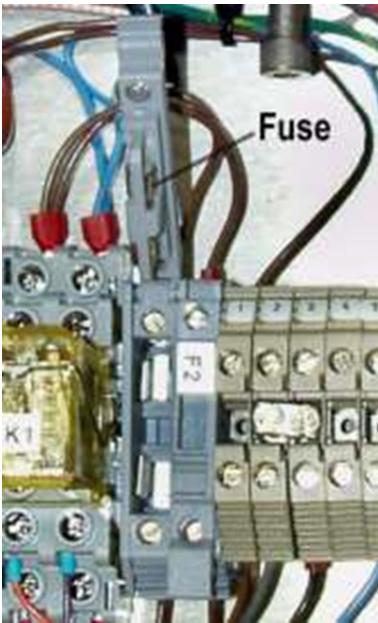

Figure 12. Fuse Replacement
1. Open the fuse housing by lifting up on the tab at the bottom of the housing. The fuse is located inside the housing cover (see Figure 12).